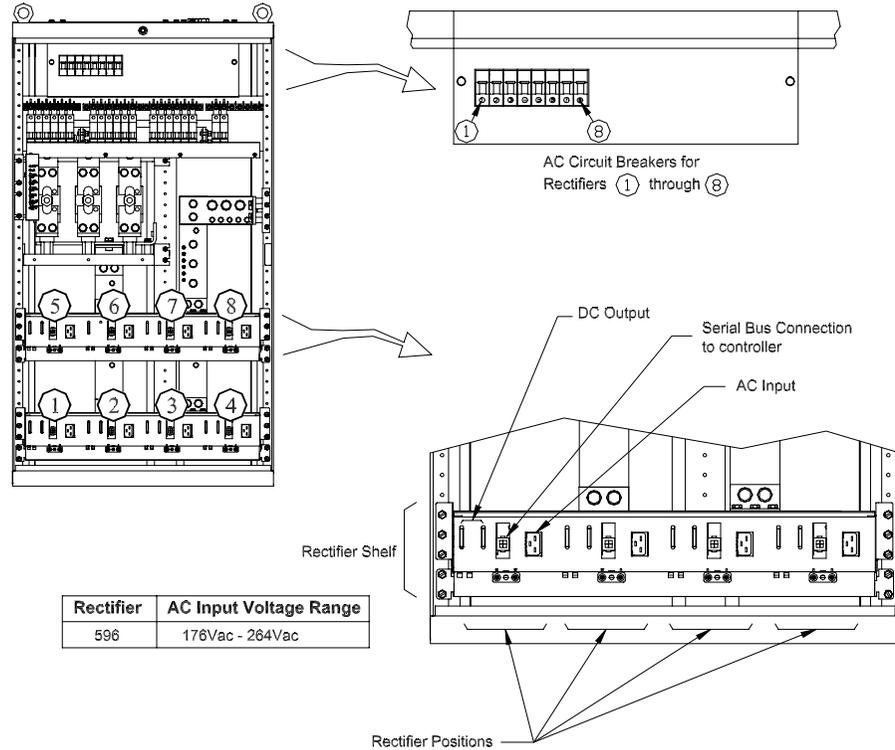

Figure 13-8: Detail of AC Input Panel and Rectifier Shelf
- AC input (see Figure 13-8)
(See Figure 13-8)